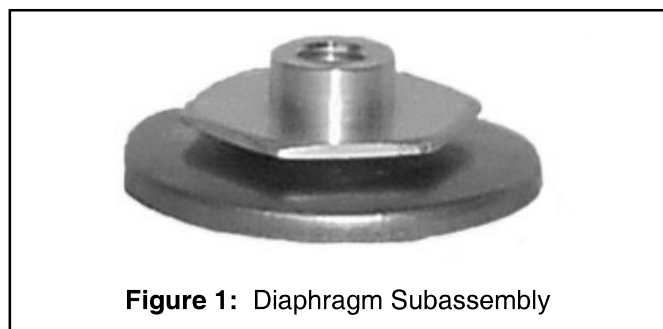

Figure 1: Diaphragm Subassembly
3. Refer to Figure 2 for basic regulator and Figure 1 for the diaphragm subassembly.